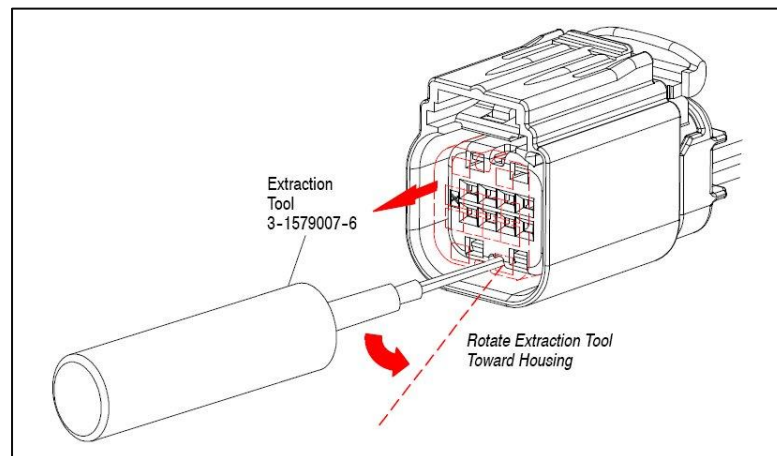

Figure 3-9. Disengaging TPA
- a) To disengage the TPA, insert Extraction Tool 3-1579007-6 in the center of the plug connector housing cutout on the TPA. Rotate the extraction tool toward the front of the connector to disengage the TPA. See **Figure 3-9**.